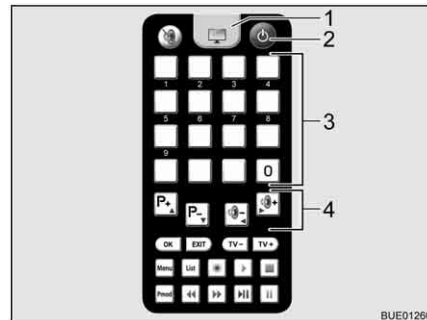

Fig. 39 Remote control for television
- Press the key "⏻" (Fig. 39,2) on the remote control for the television. The unit switches to search mode. You will hear a continuous tone.
- To switch to television reception on the TV remote control, press the TV button (Fig. 39,1). The signal tone will stop. An image will appear on the screen.
- Use the memory buttons (Fig. 39,3) on the TV remote control or the function buttons (Fig. 39,4) to select the desired station.